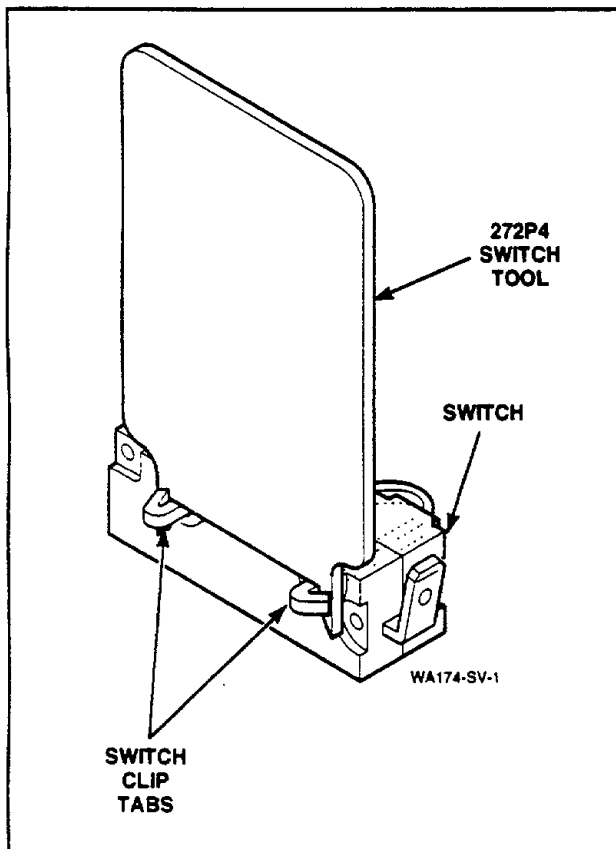

Figure 43
- Place the switch tool, Part No. 272P4, over the switch clip tabs as shown in *Figure 43*.